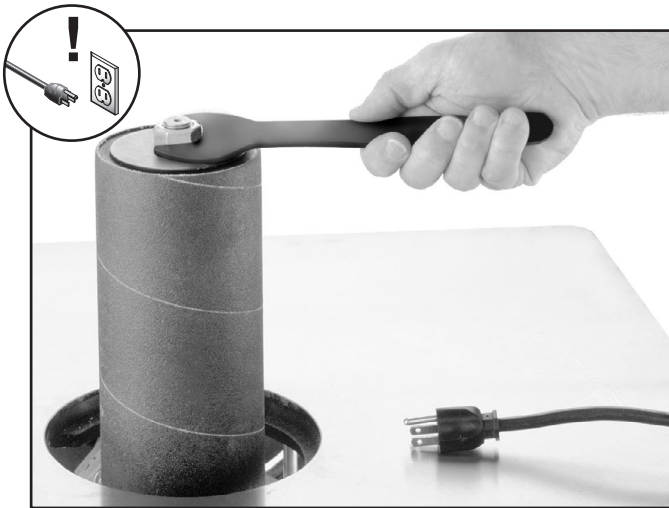

Figure 29. Removing sanding sleeve.
2. Loosen hex nut located on top of spindle as shown in **Figure 29**. Hex nut and flange disk DO NOT need to be removed.